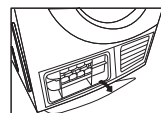

Fig6
1. Unlock the maintenance cover. (Fig6)